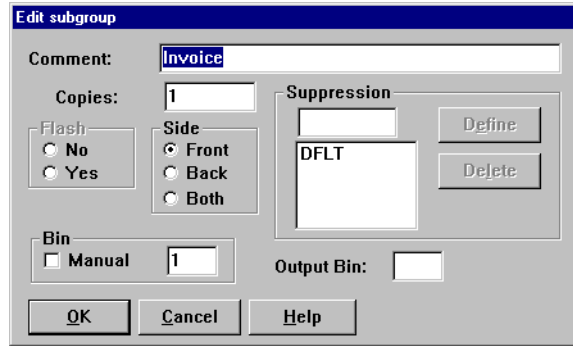

Figure 32. Subgroup specifying front side only
3. You should have four subgroups now. Right-click the **Invoice** subgroup. For the Side option, select the **Front** radio button. The window should look like the example in Figure 32. Click **OK**.